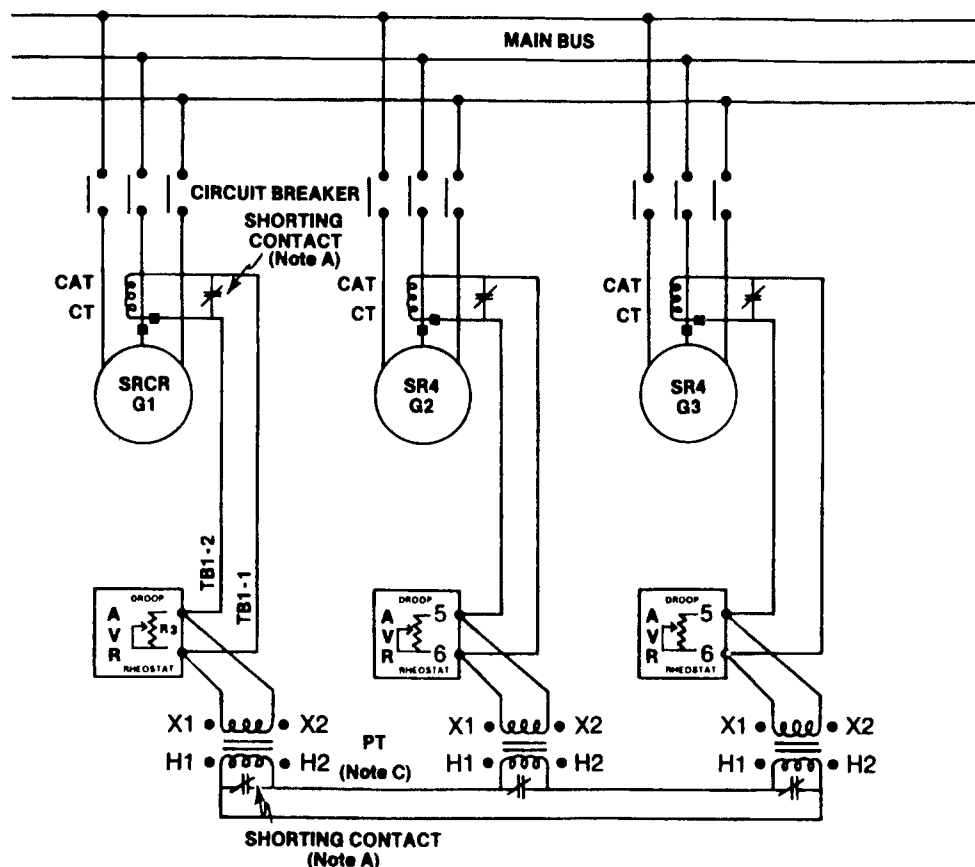

Figure 3
Important: Treat VR3 self-excited or permanent magnet similar to the singlephase, half-wave excitation (A1-/A2-type AVR). See Figure 3.
Each generator's current is measured with a current transformer (CT) in one line, usually T2. When paralleling, all CTs must be in the same line of each generator. Also, all CTs must be correctly polarized such that all the secondaries connections are series additive. See Figure 3.
Table 2: Transformer selection for Figure 3 only (see Note C for Figure 3).